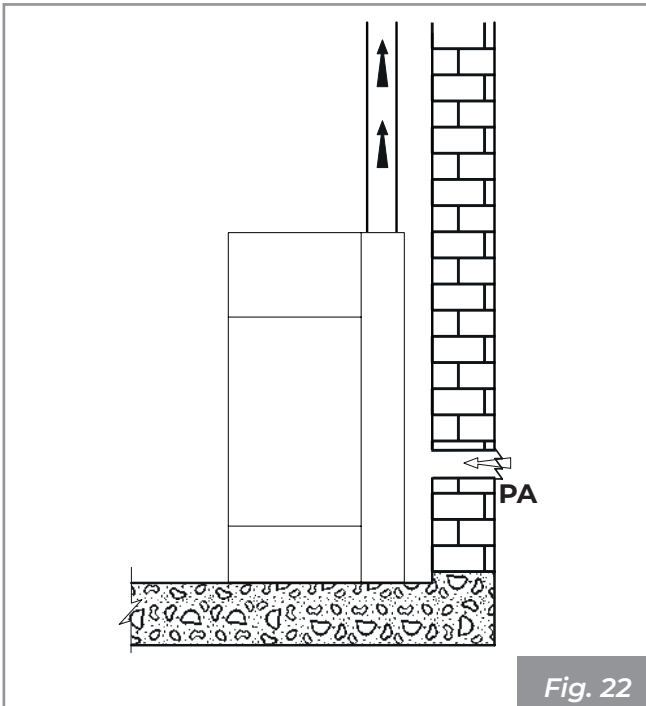
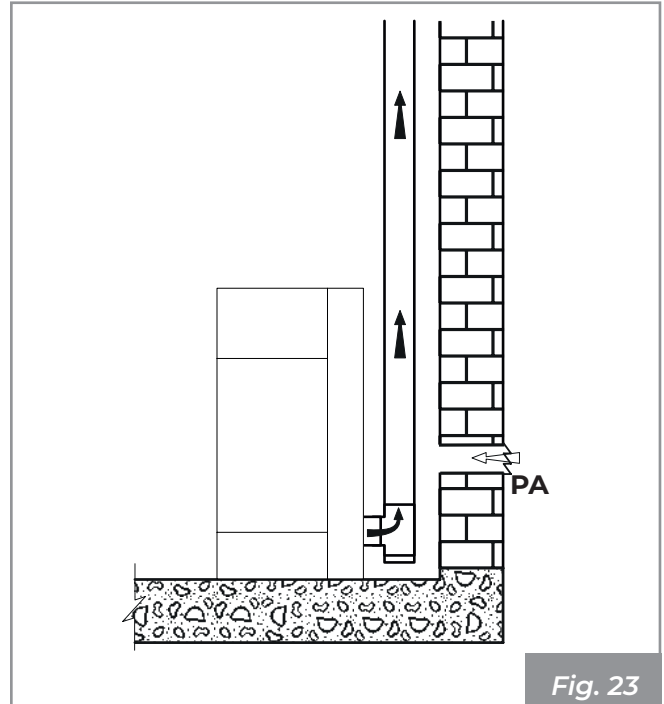

Fig. 22
Fig. 23
- it can come from the installation room or suitable adjacent rooms (**Fig. 22 - Fig. 23**)
Create the air intake on the wall (Fig. 22 and Fig. 23 - PA = Air Intake), and leave the appliance to withdraw the room air, making sure to connect the section of corrugated pipe on the air inlet pipe, if supplied, fixing it with the strap and folding it slightly downwards to prevent any resonance effects.